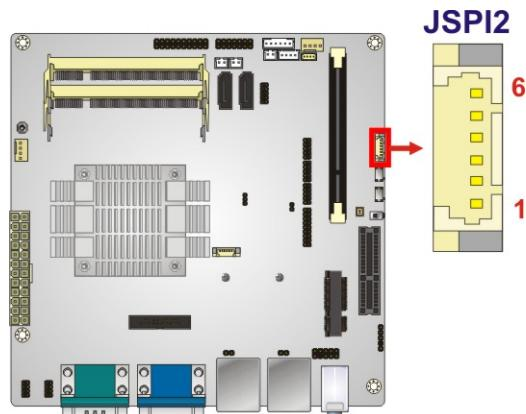

Figure 3-27: SPI EC Flash Connector Location
**CN Location:** See Figure 3-27